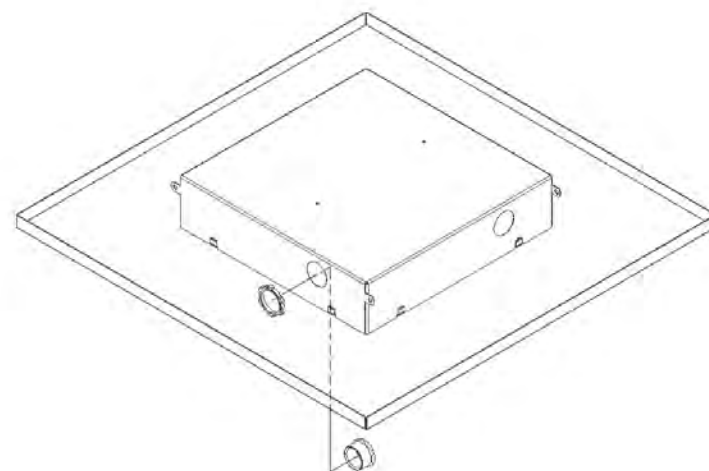

Figure 2
Step 1 – Place the *ceiling enclosure back box assembly* on the work surface. Determine which knockout is to be used to bring in the Ethernet cable and remove the knockout. (Ref. Figure 2). Install the conduit fitting from the inside of the enclosure. Insert the conduit fitting through the hole with the nut installed from the outside of the enclosure (ref. Figure 2).